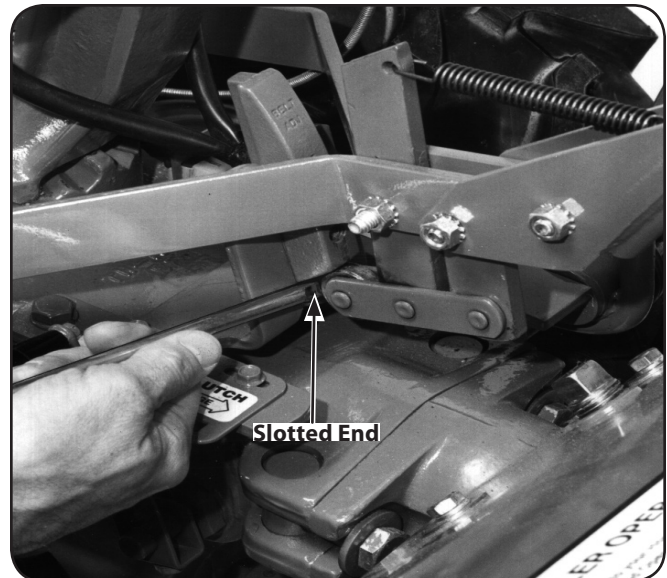

Figure 6-14
- Without moving the clutch roller, try inserting the $\frac{1}{4}$ "-thick, slotted end of the belt adjustment tool in between the roller and the upright bracket. The flat edge of the tool must be facing the roller. See Fig. 6-14.